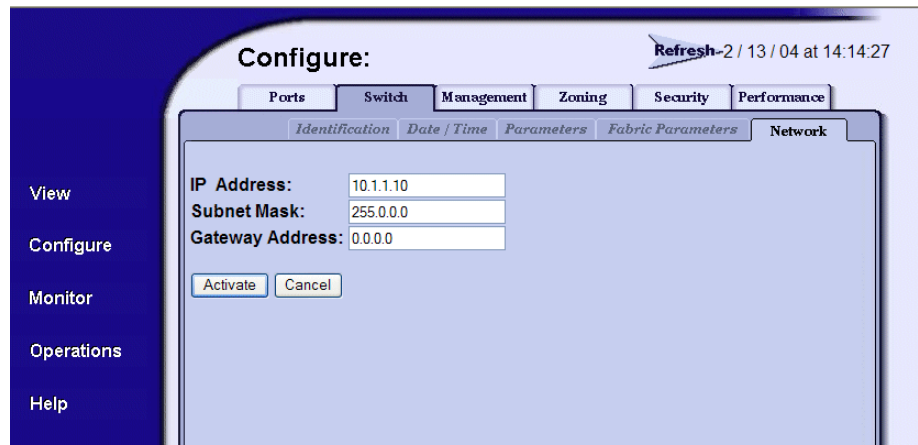

Figure 9: Configuring network parameters tab view
2. Click the **Switch** or **Director** tab, then click the **Network** tab to display the **Network** tab view (Figure 9).